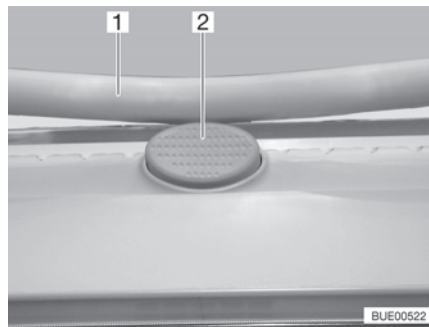

Fig. 43 Safety knob (Heki skylight)
- Press the safety knob (Fig. 43,2) and pull the bar (Fig. 43,1) down with both hands.
- Push the bar upwards with both hands until it is above the safety knob (Fig. 43,2).